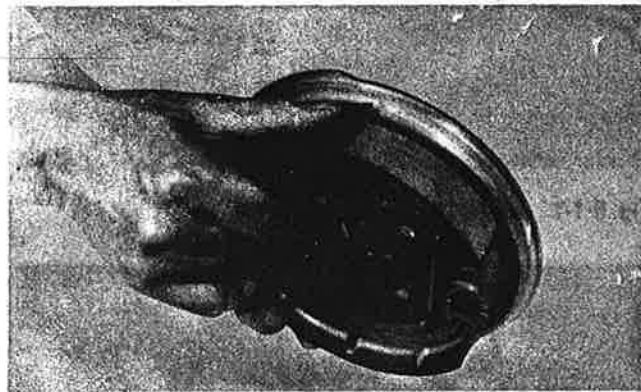

Fig. 5-1-9
2. Remove any glazed areas from brake shoes using coarse sand paper. (Fig. 5-1-9)